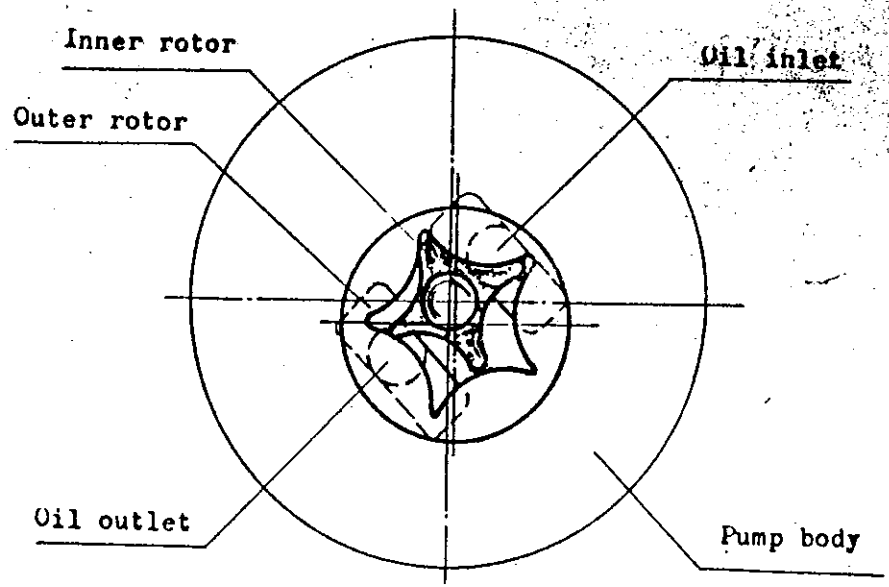
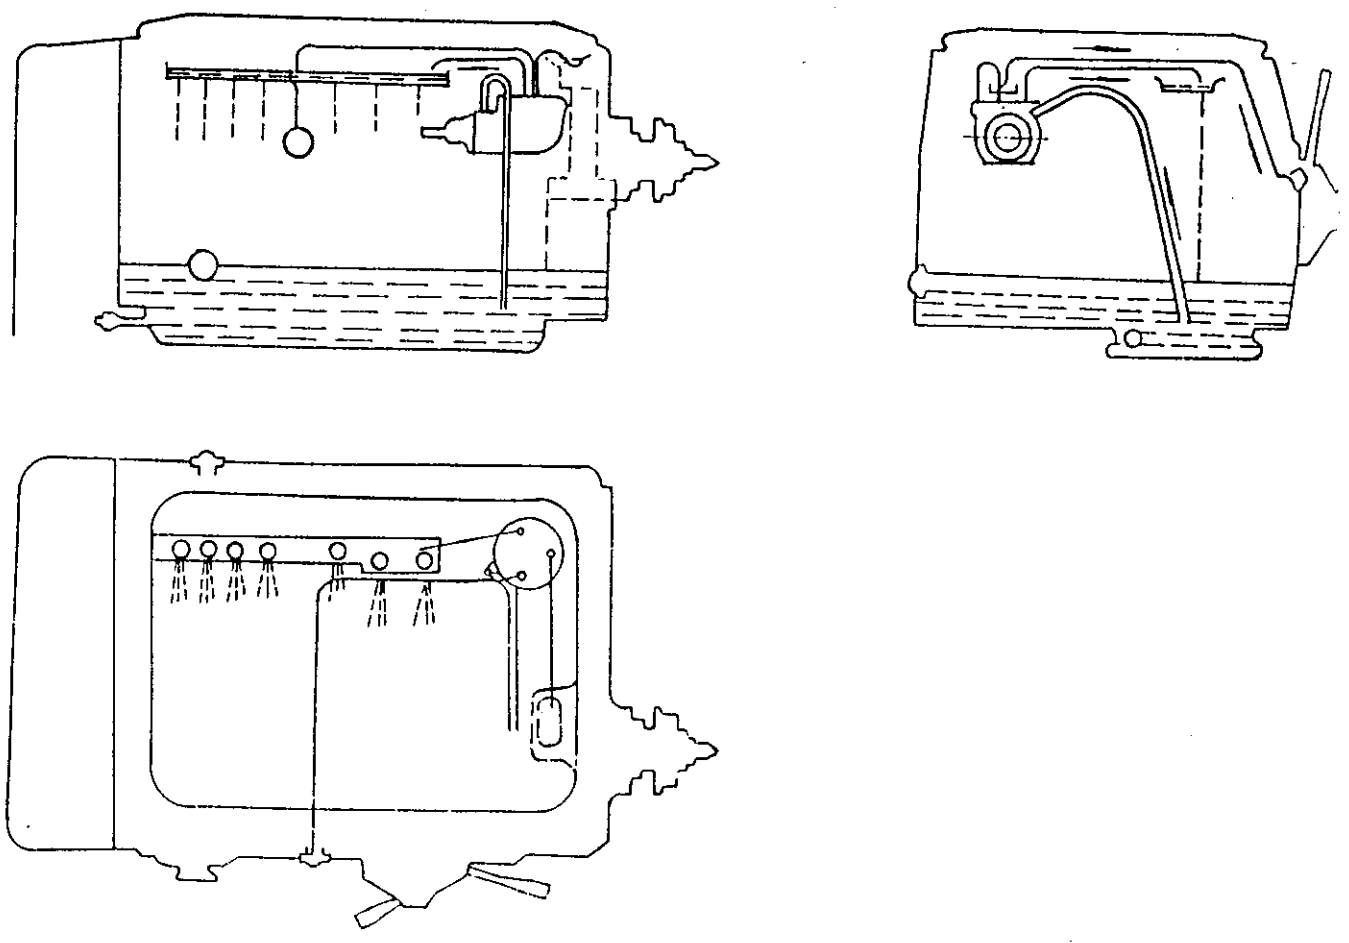

Fig.8 Schematic sketch of trochoid pump in operation
Fig.9 Lubricating diagram in headstock
1. In the headstock the lubricating oil is supplied by a built-in trochoid pump driven by shaft 1 (Fig.8). The lubricant being raised and filtered, is then led to the oil pan and sump for lubricating gears, shafts as well as bearings. A circulatory lubrication is formed in the headstock. (Fig.9). For check up the working condition of the pump, it provides an oil window on the headstock front. The oil level of headstock is observed from the sightglass at the rear side.